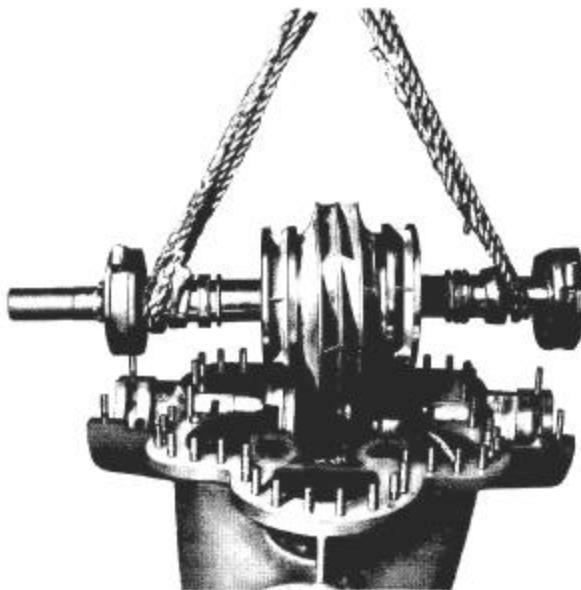
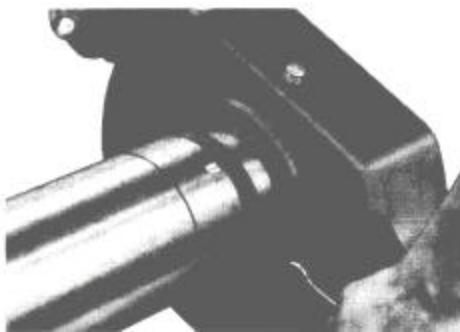

Fig.27 – Lift and extracting of rotor from inside the lower casing
Fig.28 – Extracting of external ring of bearing with screw
Pass a rope around the shaft between the gland covers and bearing housings and lift the rotor to extract it from lower casing. See fig. 27. Take care to not damage the studs (902.1) and that the extracting is done without effort due to friction or bent position of rotor. Extract coupling sleeve with a pull out device and the key (940.3). Loosen nuts (901.2) and bearing cover of drive side (360.1). For pumps with DN 400 mm or above, there are two extract holes M8 (5/16") in the rear part of bearing housings. By means of uniform tighten of two bolts relatively long in these tapped holes, remove external ring of bearing. See fig. 28. With a pull out device extract bearing housing for pumps DN 400 mm (16") or bigger, extract also internal ring of bearing and spacer ring (504). For pumps up to 300 mm extract bearing housing and also ball bearings.